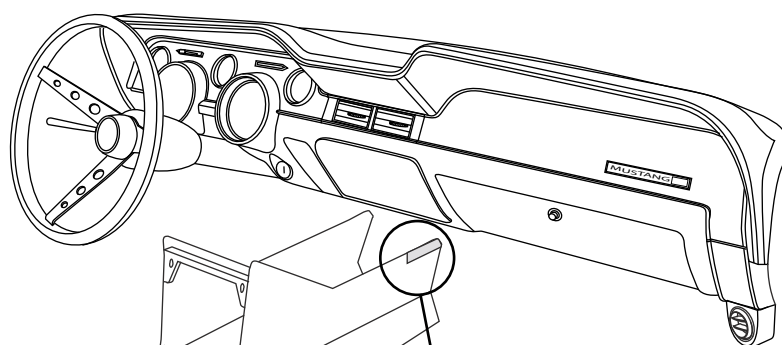

Figure 14
6. Reinstall the center console (if equipped). Modify the console as shown in Figures 14 & 14a, below.